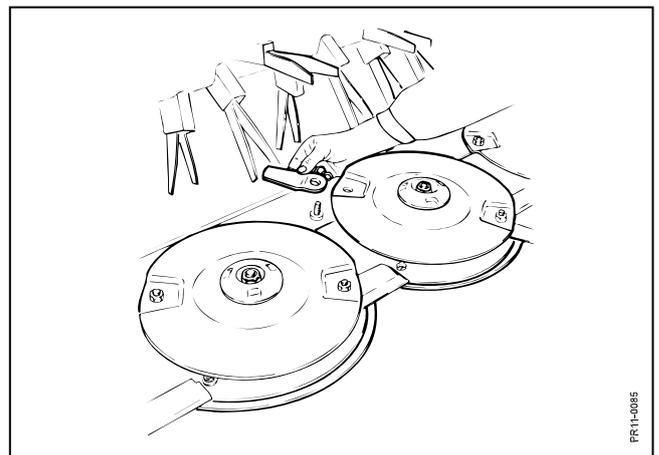

Fig. 5-11
**Fig. 5-11** To obtain a satisfactory harvesting, **it is important that blades and shear bar are intact and sharp.** Blades are replaced by dismounting the blade bolt and pulling it down and out of the disc. This is easy when the blade is in front position, so that the bolt can fall through the hole in the stone protection. The old blade is removed and the new one is mounted with the blade bolt.